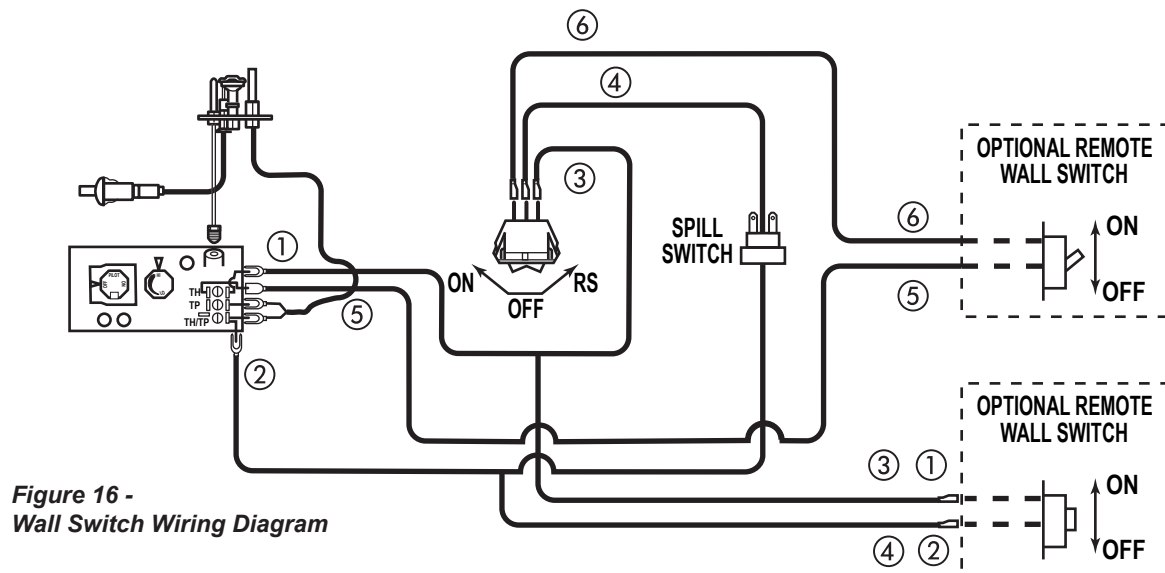

Figure 16 -
A remote wall switch and up to fifteen (15) feet of 18 Ga. wire may be used with this appliance. Attach the wall switch in a junction box at the desired location on the wall. *Figure 16.* Do not extend beyond the wall switch wire length provided.